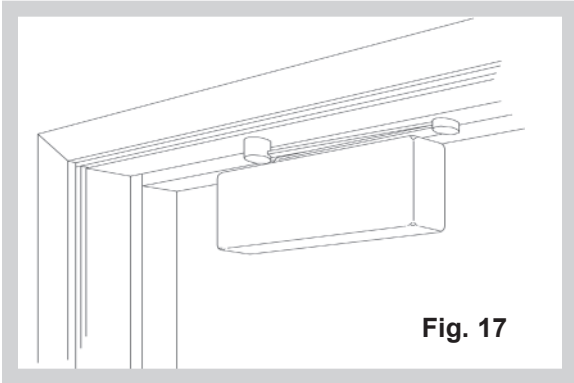

Fig. 17
- 3 Drill and tap through frame and reinforcement for closer shoe attachment (Fig. 17).